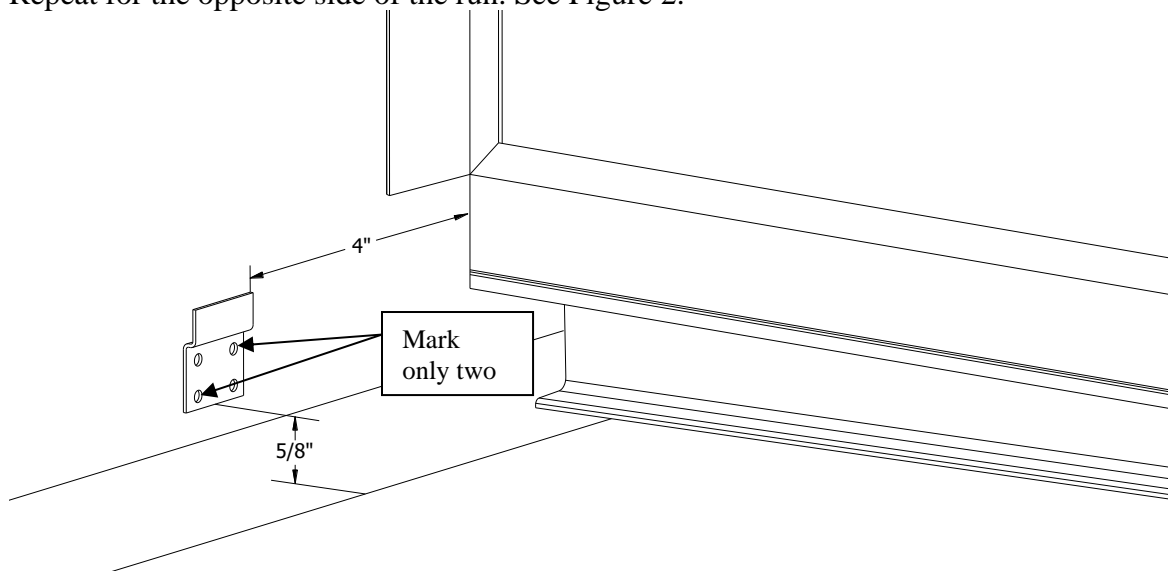

Figure 2.
2. Hold a support bracket so that the bottom edge and one side of the bracket is on the lines you marked in step 1. Mark the wall for drilling through one upper hole and one lower hole diagonally across the brackets. (Note: only two holes are required to mount each bracket). Repeat for the opposite side of the run. See Figure 2.